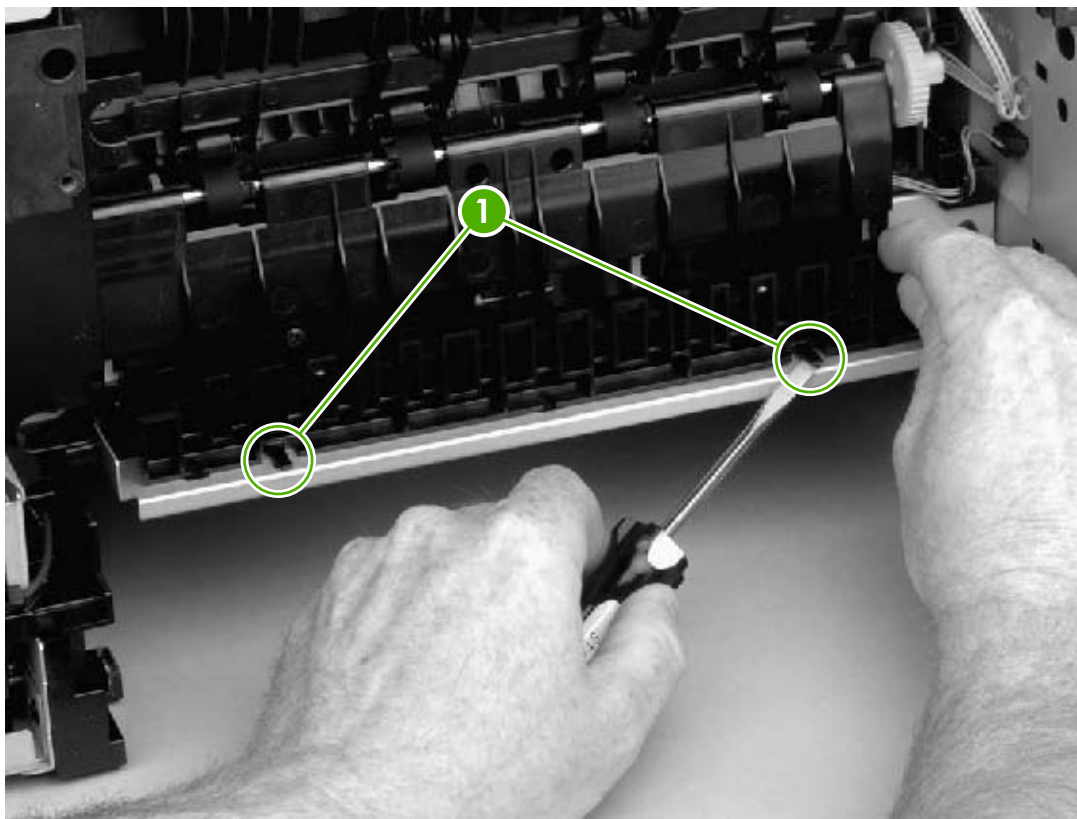

Figure 5-61 Removing the fuser (1 of 3)
- Duplexer inlet guide (see Figure 5-61 Removing the fuser \(1 of 3\) on page 139)